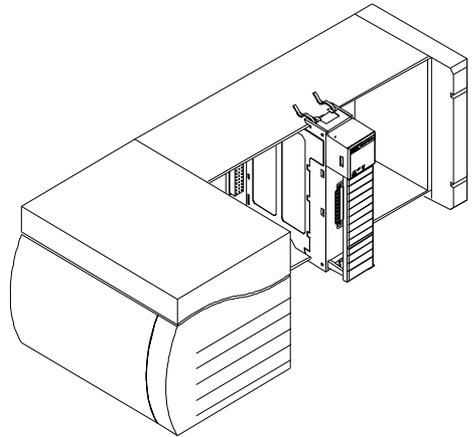

FIG. 3-3 MODULE INSTALLED IN CHASSIS
- Step 1. Press down on the top and bottom processor releases simultaneously and pull the module out of the chassis. (See Fig. 3-3)